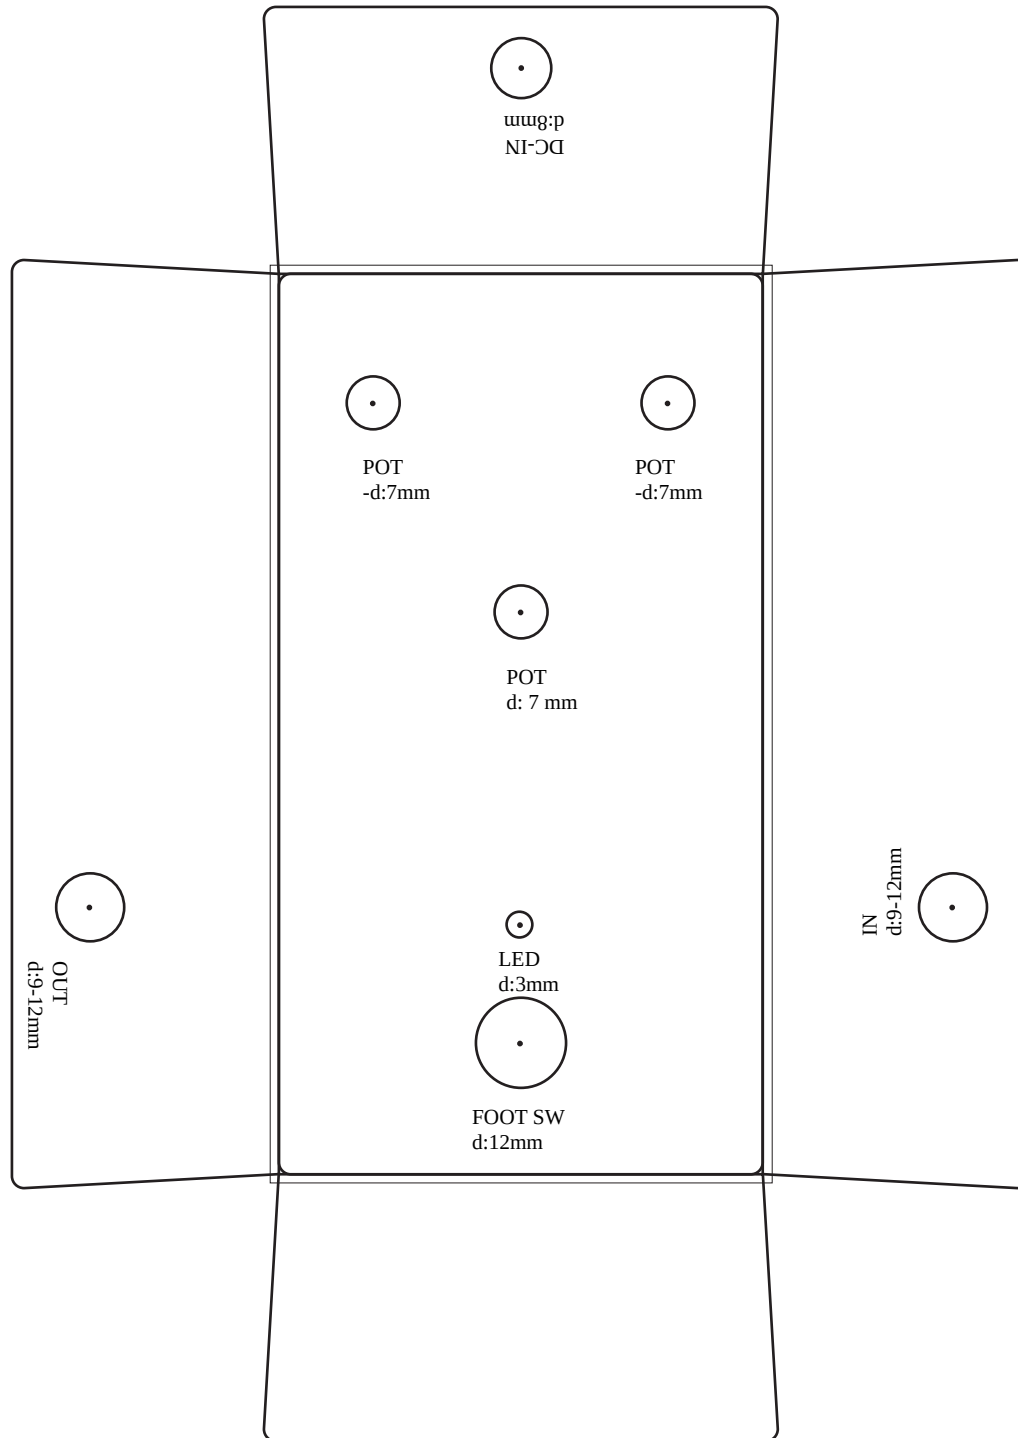

Figure 6. DT-FOG Pedal Drill Template for 125B Enclosure
- E) Drill template for 125B enclosure is shown in Figure 6